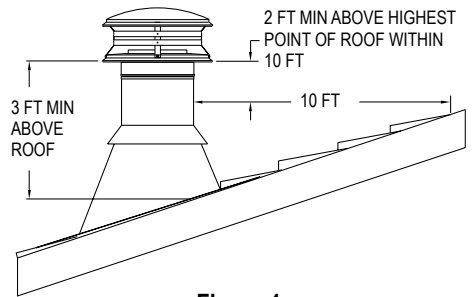
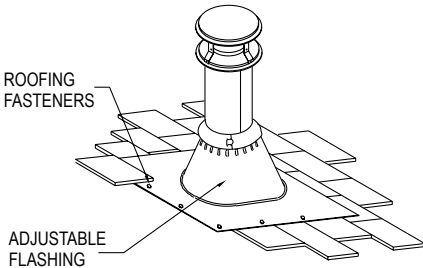
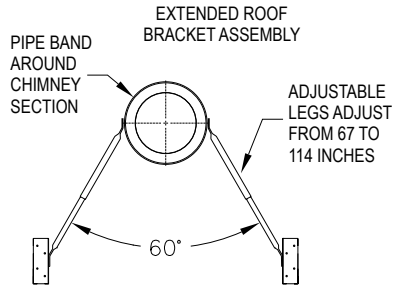

Figure 1
Figure 12
Figure 16
The National Fire Protection Association Standard #211 states: "Chimneys shall extend at least three feet above the highest point where it passes through the roof of a building, and at least two feet higher than any portion of a building within ten feet." (**Fig 1**) DuraTech Chimney may be installed up to 60 feet high. If the chimney extends more than 5 feet above the roof, an Extended Roof Bracket must be
chimney above the roof. Allow space to permit sliding the next Chimney Section up through the Flashing. Always insure the chimney remains vertical (use a level), and that at least a 2-inch clearance to combustible materials is maintained all around. Install the upper edge of the Flashing under the roofing. Nail to the roof along the upper edge and down each side with 1-inch roofing nails. Do not nail the lower edge of the Flashing (**Fig 12**). Seal top and upper sides of flashing with roofing compound or sealant. Be sure to follow local building practices, as needed. Seal all nail heads with a non-hardening waterproof sealant. On flat or tarred and graveled roofs, nail and seal the Flat Roof Flashing to the roof on all sides with roofing compound. Do not put screws through the Flashing into the Chimney Pipe.
10. Finish Top: Apply a high-temperature (500°F), non-hardening waterproof sealant around the chimney at the point where the Storm Collar will meet the chimney just above the Flashing. (**Figures 12 and 13**). Slide the Storm Collar down over the chimney to the top of the Flashing. Tighten and seal the Storm Collar against the sealant. After installing sufficient Chimney Sections to meet the height requirement (**Fig 1**), attach the Chimney Cap onto the top of the chimney by holding the collar of the cap and twist locking it clockwise onto the chimney. Do not hold upper portion of the cap and twist, as this may damage the cap. The Chimney Cap can be removed for chimney cleaning as described in the Chimney Maintenance section of the instructions. Use an Extended Roof Bracket if the chimney extends more than 5 feet above the roof. (**Figures 16 & 17 in the Extended Roof Bracket section**). If you are located in heavy snow country, it is recommended that a Snow Splitter be installed. The Snow Splitter can be purchased from Simpson Dura-Vent
- 2. Attach the Legs:** The Adjustable Legs of the assembly will adjust from 67" to 114". Secure one end of each Leg to the Pipe Band using the nuts and bolts included (2 per Leg). Position the Adjustable legs so they form approximately a 60° angle with the chimney, and with each other (**Figures 16 and 17**). Be sure that there is at least 3" of overlap between the top and bottom halves of the Adjustable Leg. In order to secure Legs in proper position, there is a hole provided in the outer leg where the outer and inner halves overlap. Use a 1/4" drill bit to drill through the inner leg at that location. Use the nut & bolt provided to pin the Adjustable Legs in position.
- 3. Install Roof Brackets:** Mount the two Roof Brackets where each of the Adjustable Legs meets the roof, using (4) 1" roofing nails or screws per bracket. Seal the nail heads carefully with a non-hardening, waterproof sealant. Attach the bottom end of the